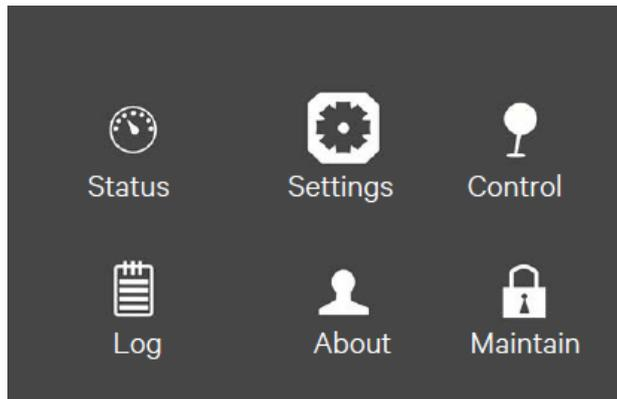

Figure 5-9 Main menu screen
1. At the main menu screen, press the  or  key to switch the cursor to select 'Settings', then press the  key to confirm it. See Figure 5-9.